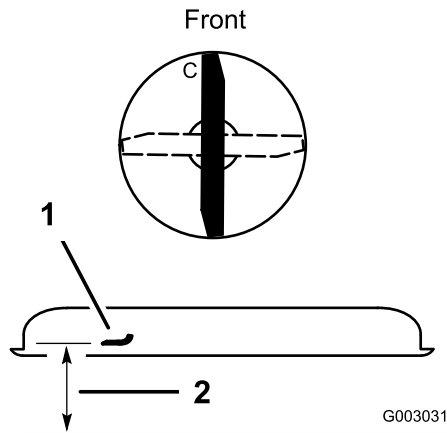

Figure 47
1. Rotate the blade until the ends face forward and backward (Figure 47).
2. Measure from a level surface to the cutting edge, position **C**, of the blade (Figure 47). Note this dimension.